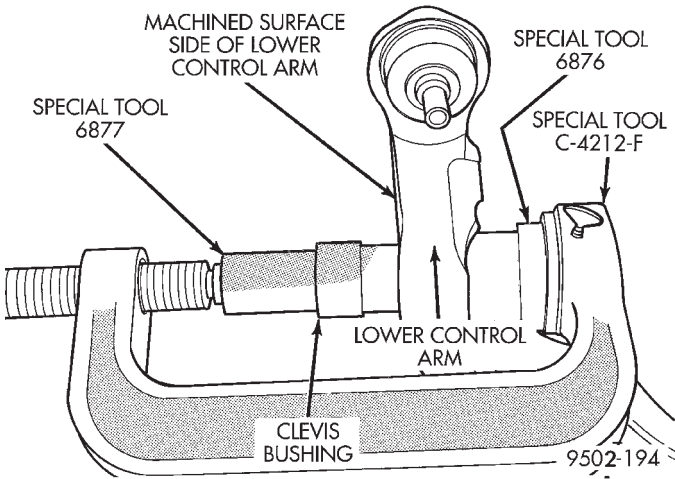

Fig. 93 Installing Clevis Bushing In Lower Control Arm
(1) Start clevis bushing into lower control arm **by hand, making sure it is square with its mounting hole in the lower control arm.** Bushing is to be installed in lower control arm from the machined surface side of lower control arm bushing hole.
(2) Mount Bushing Installer, Special Tool 6877 on screw portion of Remover/Installer Special Tool C-4212-F as shown in (Fig. 93).
(3) Install the assembled special tools for installing the clevis bushing into the lower control arm, on the lower control arm and clevis bushing (Fig. 93). Be sure Special Tool 6876 is square on lower control arm and Special Tool 6877 is positioned correctly on clevis bushing (Fig. 93).